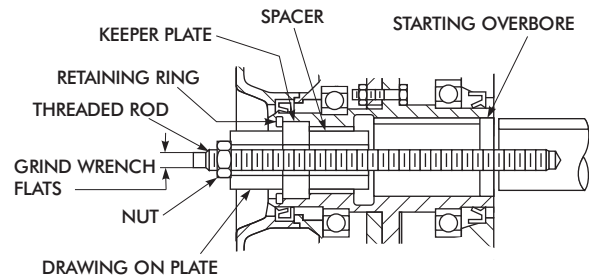

Figure 3
rod and drawing on plate are required to draw the coupling onto driven shaft, see Figure 3. Refer to Table 2 for threaded rod and drawing on plate dimensions.
4. Assemble spacer, keeper plate and retaining ring (Refer to Table 5, Page 5 for retaining ring number) into hollow shaft of fluid coupling, Figure 3. Spacer must be properly seated against keeper plate.